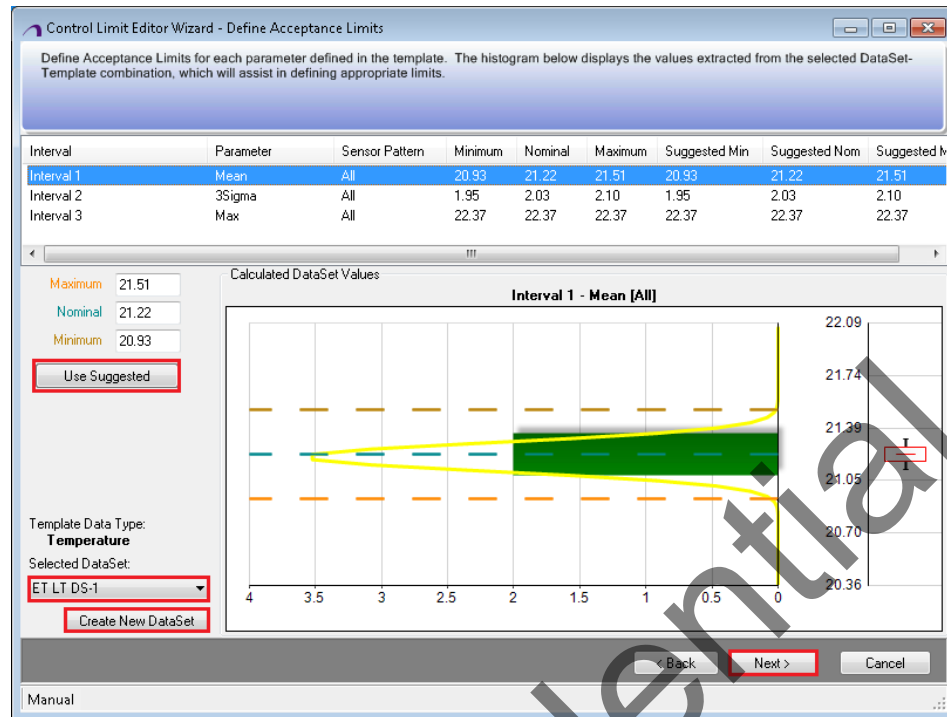

Figure 6-8 Control Limit Editor Wizard – To set parameter values
- Click the **Use Suggested** button to use the suggested values calculated from the dataset, as shown in Figure 6-8.